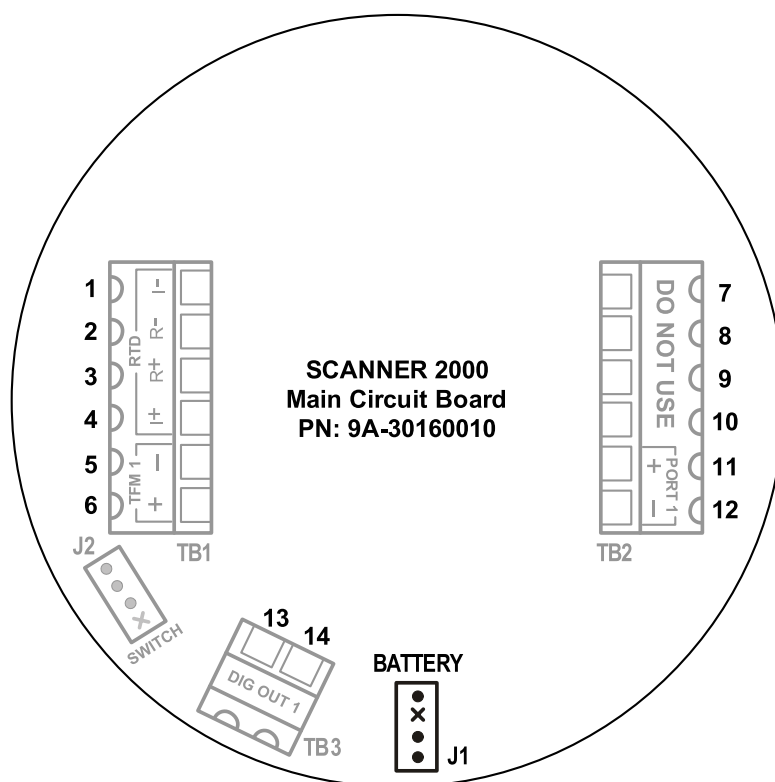

Figure 3.3—Lithium battery pack connection
5. Connect the lithium battery to the J1 connector on the main board. See Figure 3.3, page 48.
To supply backup power to the instrument, connect the lithium battery cable to connector J1 on the main circuit assembly (Figure 3.3).